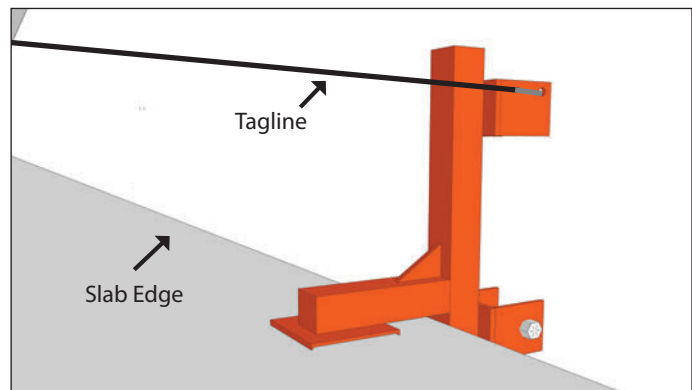

Fig 2
Wrap wire rope around column on floor above bracket and attach to bracket using wire rope clamps. Use 3/8" wire rope (minimum). Lower bracket to desired position and use ratchet straps to secure to column. (See Fig 2)
2. Measure width of slab and adjust the jaws of slab bracket to accommodate slab depth (use impact drill). Slide bracket into position so that the vertical tube sits against the face of the slab. Attach tagline to hole in upper ear. Secure the opposite end to prevent bracket from falling to lower level in the event the bracket were to become dislodged from slab edge. (see figure 2)